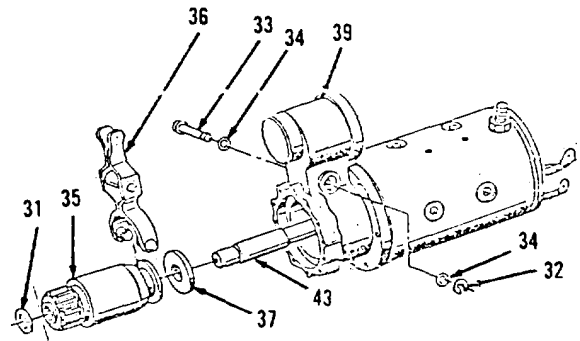

Figure 4-76.
14. Install washer (37) on armature (43, Figure 4-76) shaft.
15. Using clean grease, lubricate the groove on drive (35). Using clean oil, fill space between drive (35) housing and drive (35) pinion. Push pinion into housing as far as it will go.
16. Position lever (36) in housing (39).
17. Install drive (35) on armature (43) shaft and lever (36) in groove of drive (35).
18. Using clean grease, lightly lubricate pin (33).